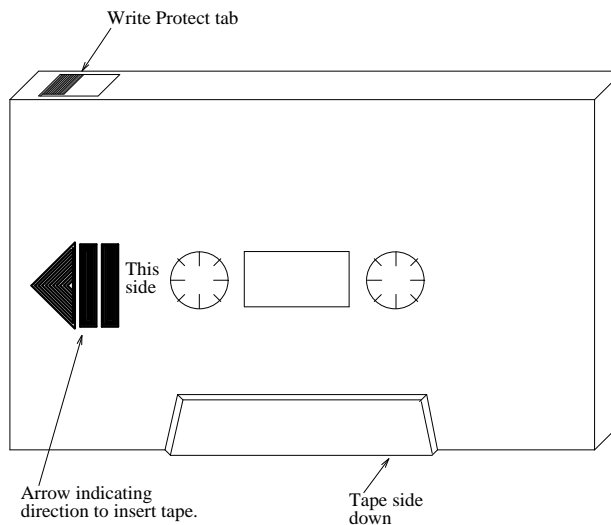

Figure 3-1. Tape Cartridge
4. Referring to Figure 3-1., hold the cartridge with the tape side down and the arrow pointing toward the drive (away from you), then insert the cartridge into the drive.